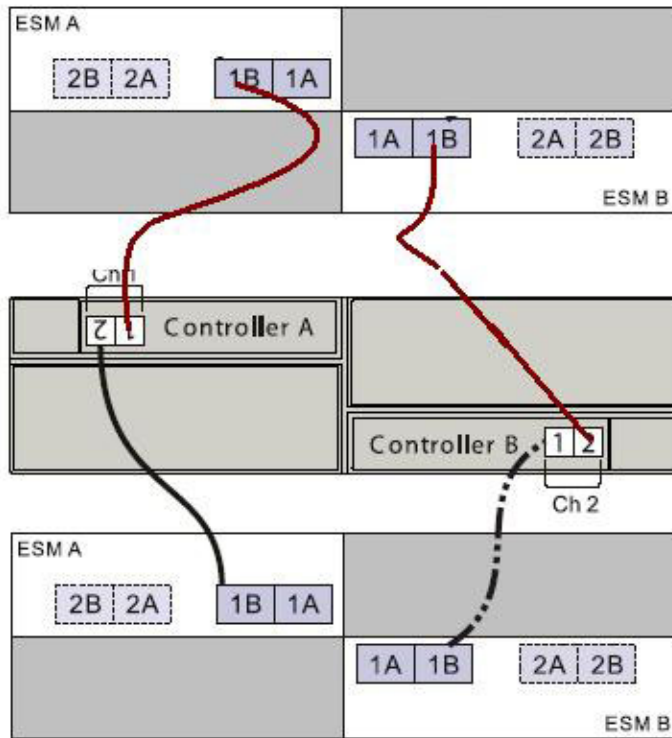

Figure 25. Round-robin cabling to the EXP520
- It is recommended that you add storage expansion enclosures to the DS5000 drive ports in a round-robin fashion. For example, if you have two EXP520s to be cabled to the DS5020, instead of cabling both EXP520s to one drive port of a drive channel, distribute the enclosures to all drive ports, which results in one enclosure per drive port of a drive channel. See Figure 25 on page 39 for an illustration.